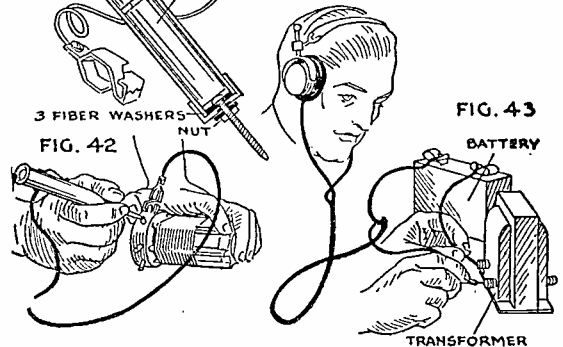

FIG. 43
**Testing Transformers:** If an audio transformer is thought to be defective, its windings can be tested for breaks by making use of the earphone-battery circuit which forms the basis of the condenser test. Hook one phone tip to the terminal of a small battery (a C battery will serve), connect the other battery terminal to one primary terminal of the transformer, and touch the remaining phone tip to the second primary terminal (see Fig. 43). If a good snappy click is heard when the contact is made and again when the contact is broken, you can be sure that nothing is wrong with the primary winding. Repeat the process to test the secondary. If the click is extremely faint or inaudible, the wire of that particular winding is broken at some point. As in all continuity tests, an ohmmeter also can be used to test transformers.